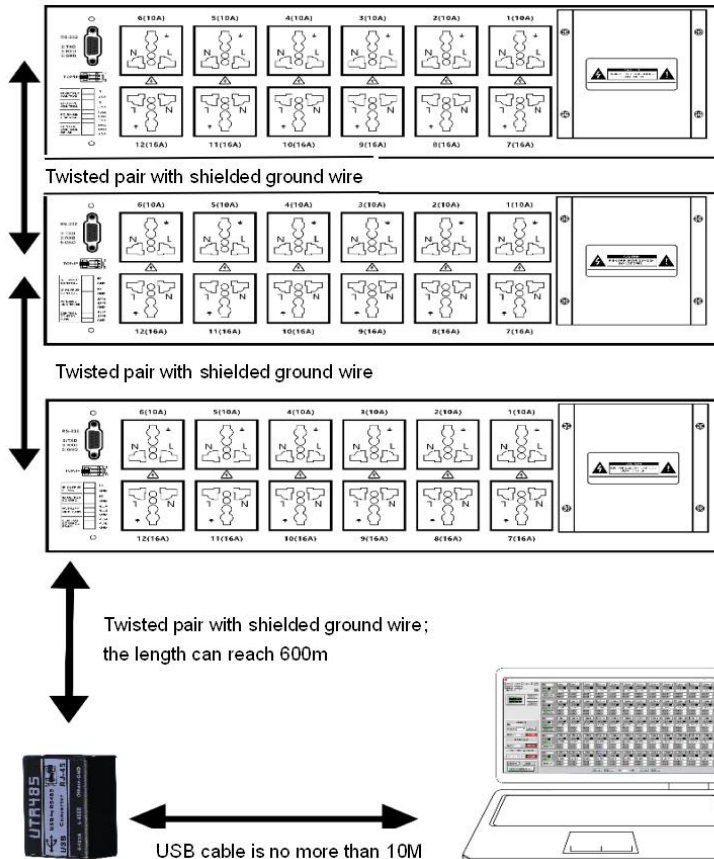
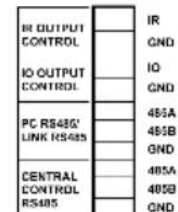

Figure 4
Figure 5
Step 2: Use the optional USB to 485 cable or other 485 cables to connect the USB port of the PC to the LINK IN port on the rear panel of the device. Use twisted pair with shielded ground wire to connect device and device, as shown in Figure 4. the definition of the LINK IN and LINK OUT ports on the rear panel is shown in Figure 5.